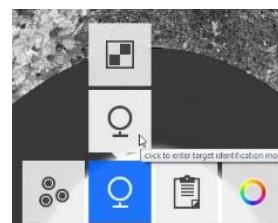

Figure 8: Target Type Selection
- To select checkerboard targets or spheres that can be recognized by the software select the target button on the bottom of the screen and select the type of target you want the software to identify (Figure 8)